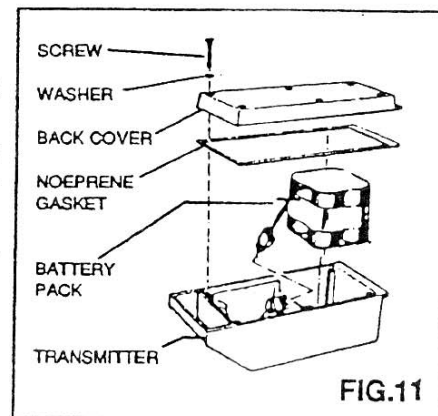

FIG.11
- 6.3 REMOVING THE TRANSMITTER FROM THE AIRCRAFT (See Figure 11)